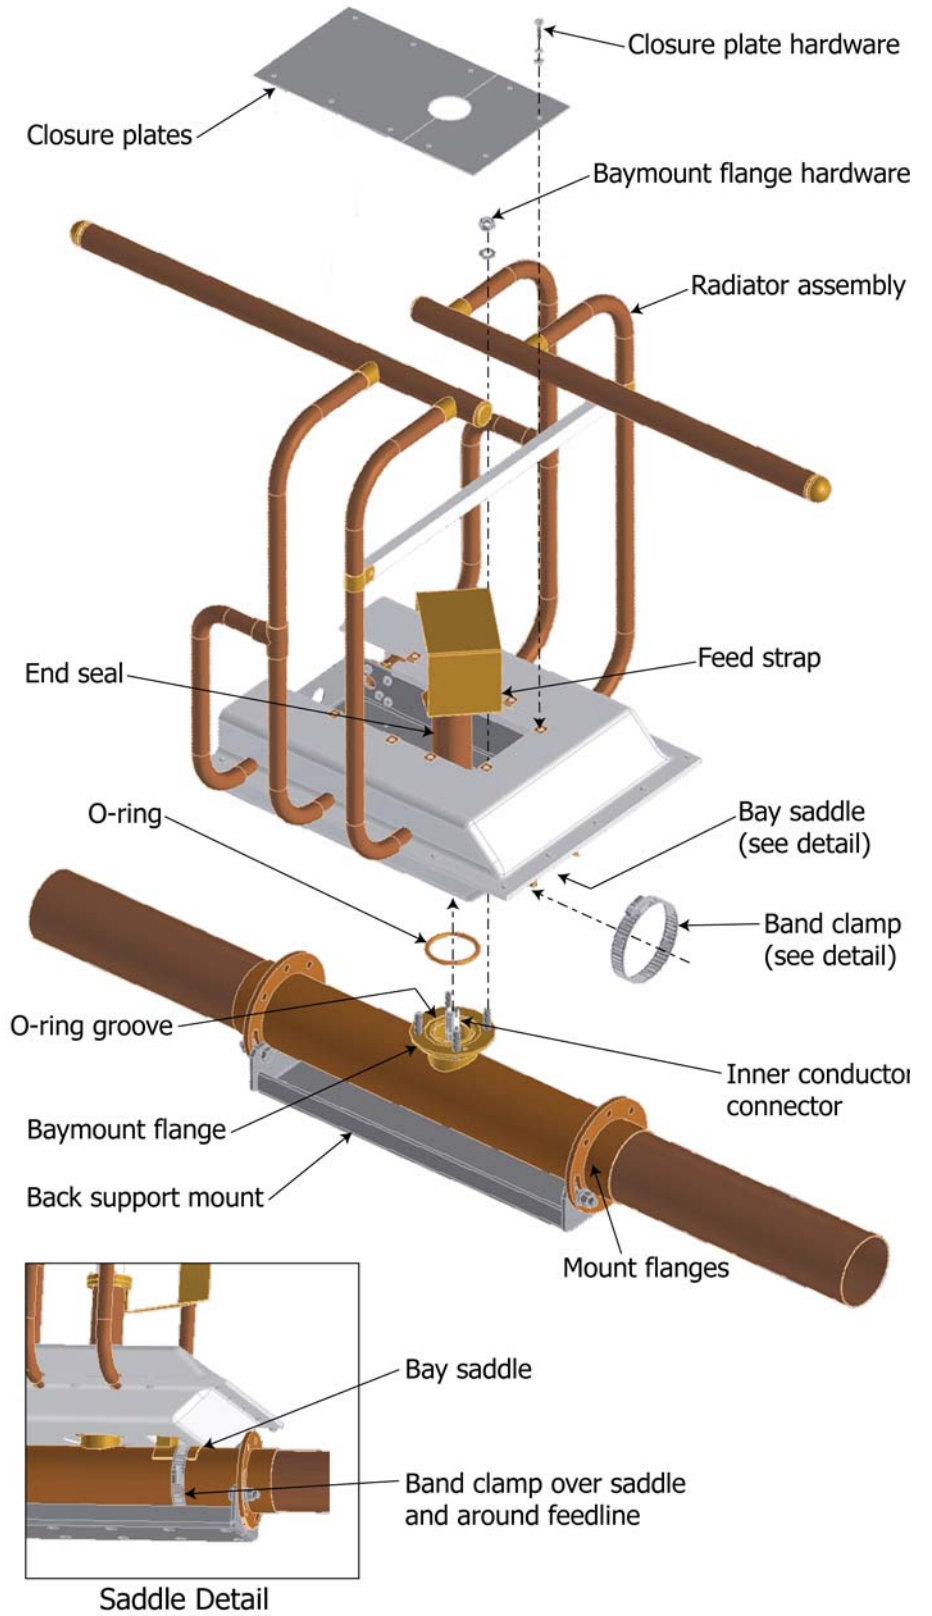

Figure 2. Attach bay radiator
- a. Attach the bay radiator to the feedline (Figure 2):
- (1) Roll the feedline section over so that the baymount flange points upward. Secure the feedline section at the brass end, using clamps, to prevent its turning with the weight of the radiator.